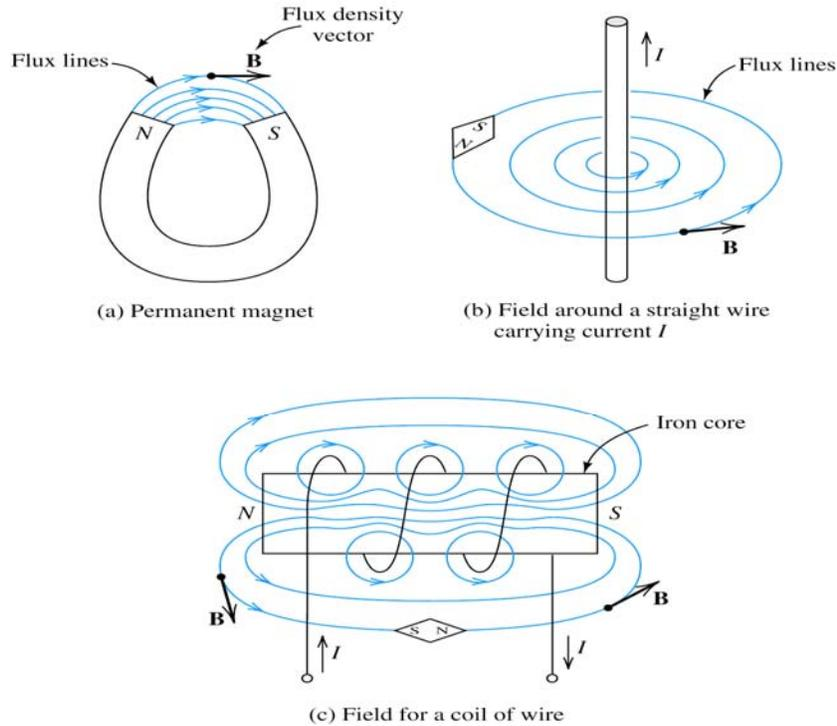

Figure 1: Magnetic field created by (a) permanent magnet, (b) straight wire, (c) coil of wire wound on an iron core
Magnetic fields are created due to movement of electrical charge, and are present around permanent magnets and wires carrying current (electromagnet), as shown in figure 1.
Magnetic field can be visualized as lines of **magnetic flux** that form closed paths (see Figure 1). Magnetic flux emanates from the north pole and returns through the south pole.
If we examine the cross-sectional area of the magnet shown in Figure 1(a) and assume that the flux is uniformly distributed over the area, the magnetic flux density is defined as the magnetic Flux per cross-sectional area.
- The flux passing through the surface bounded by a coil is said to **link** the coil (refer to figure 1(c)).